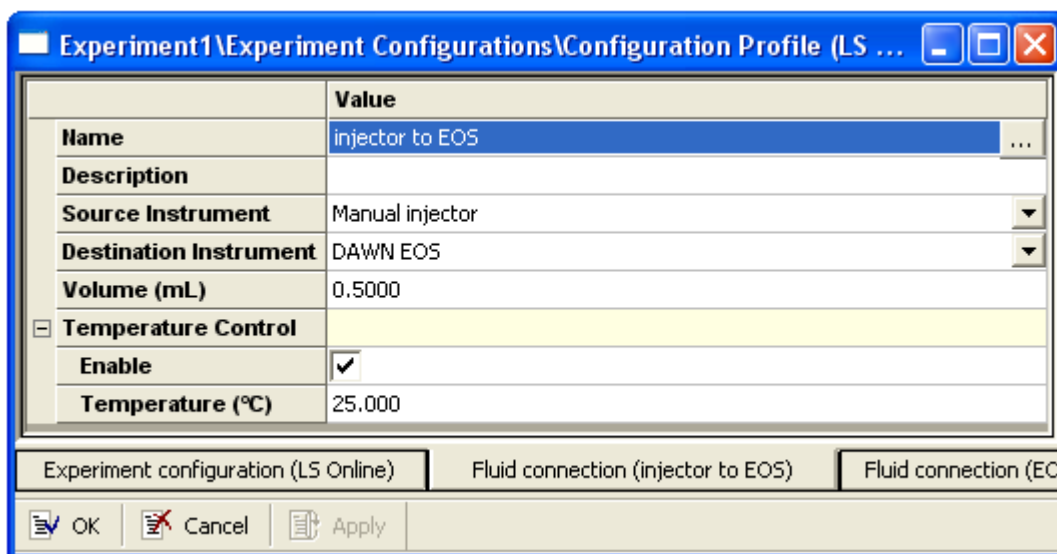

Figure 7-2: Typical property dialog (fluid connection example)
This chapter describes the types of profiles contained in configurations and how their properties can be modified. Each profile type has a property list similar to that shown in Figure 7-2.
1. Double-click on a component in the Configuration node of the Experiment tab in the workspace. This opens the properties dialog and selects the tab for that component. See Figure 7-2 for an example.